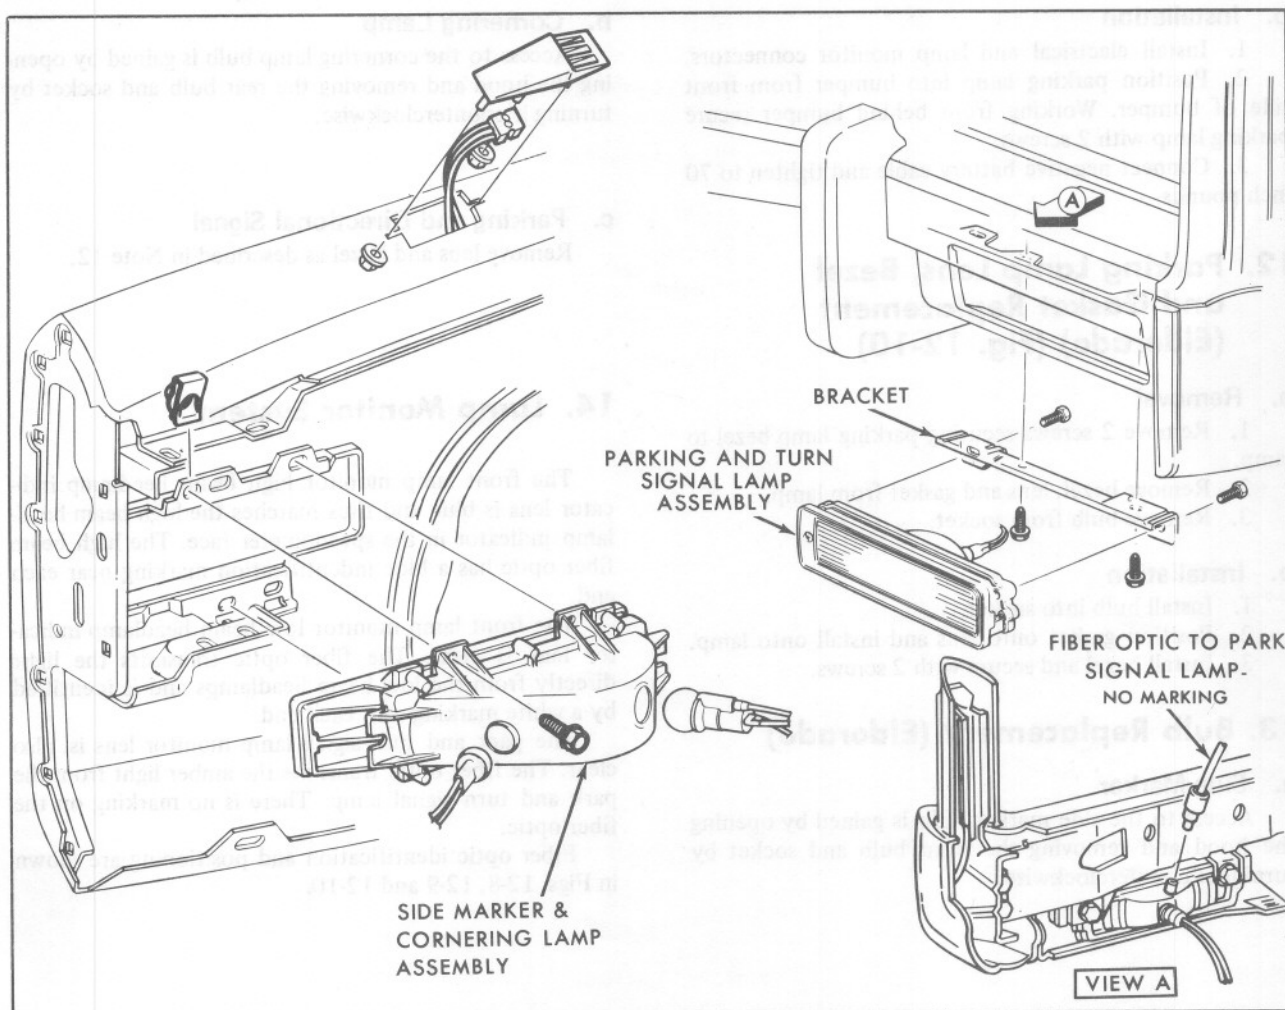

Fig. 12-10 Parking, Cornering, Directional Signal and Marker Lamps — Eldorado
## 10. Side Marker and Cornering Lamp Assembly and Bezel (Eldorado) (Fig. 12-10)
## 11. Parking Lamp Assembly (Eldorado) (Fig. 12-10)
**12. Parking Lamp Lens, Bezel and Gasket Replacement (Eldorado) (Fig. 12-10)****a. Removal**